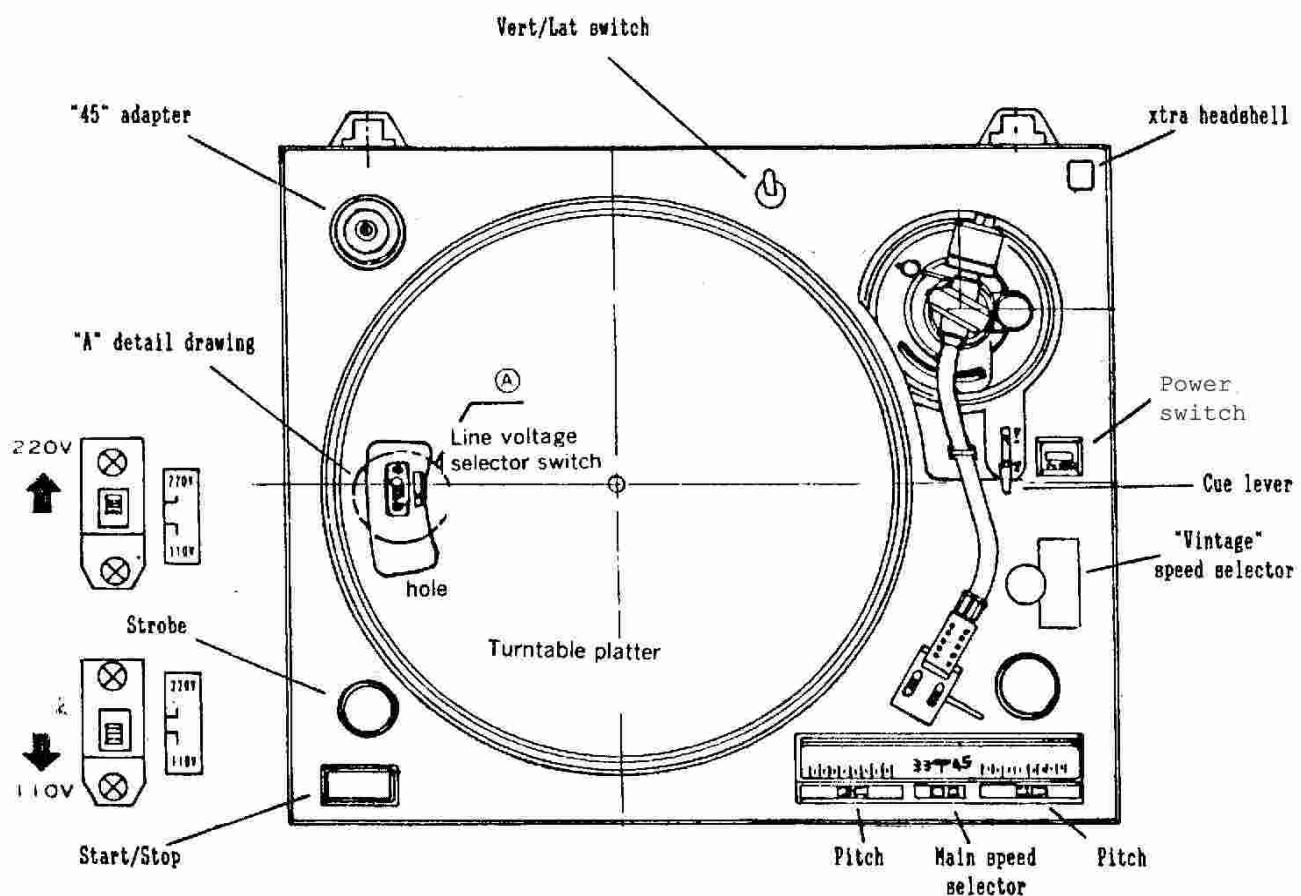

Fig. 1
- 1) Turn the turntable platter until the selector switch shows through the hole of the platter (See Fig. 1).